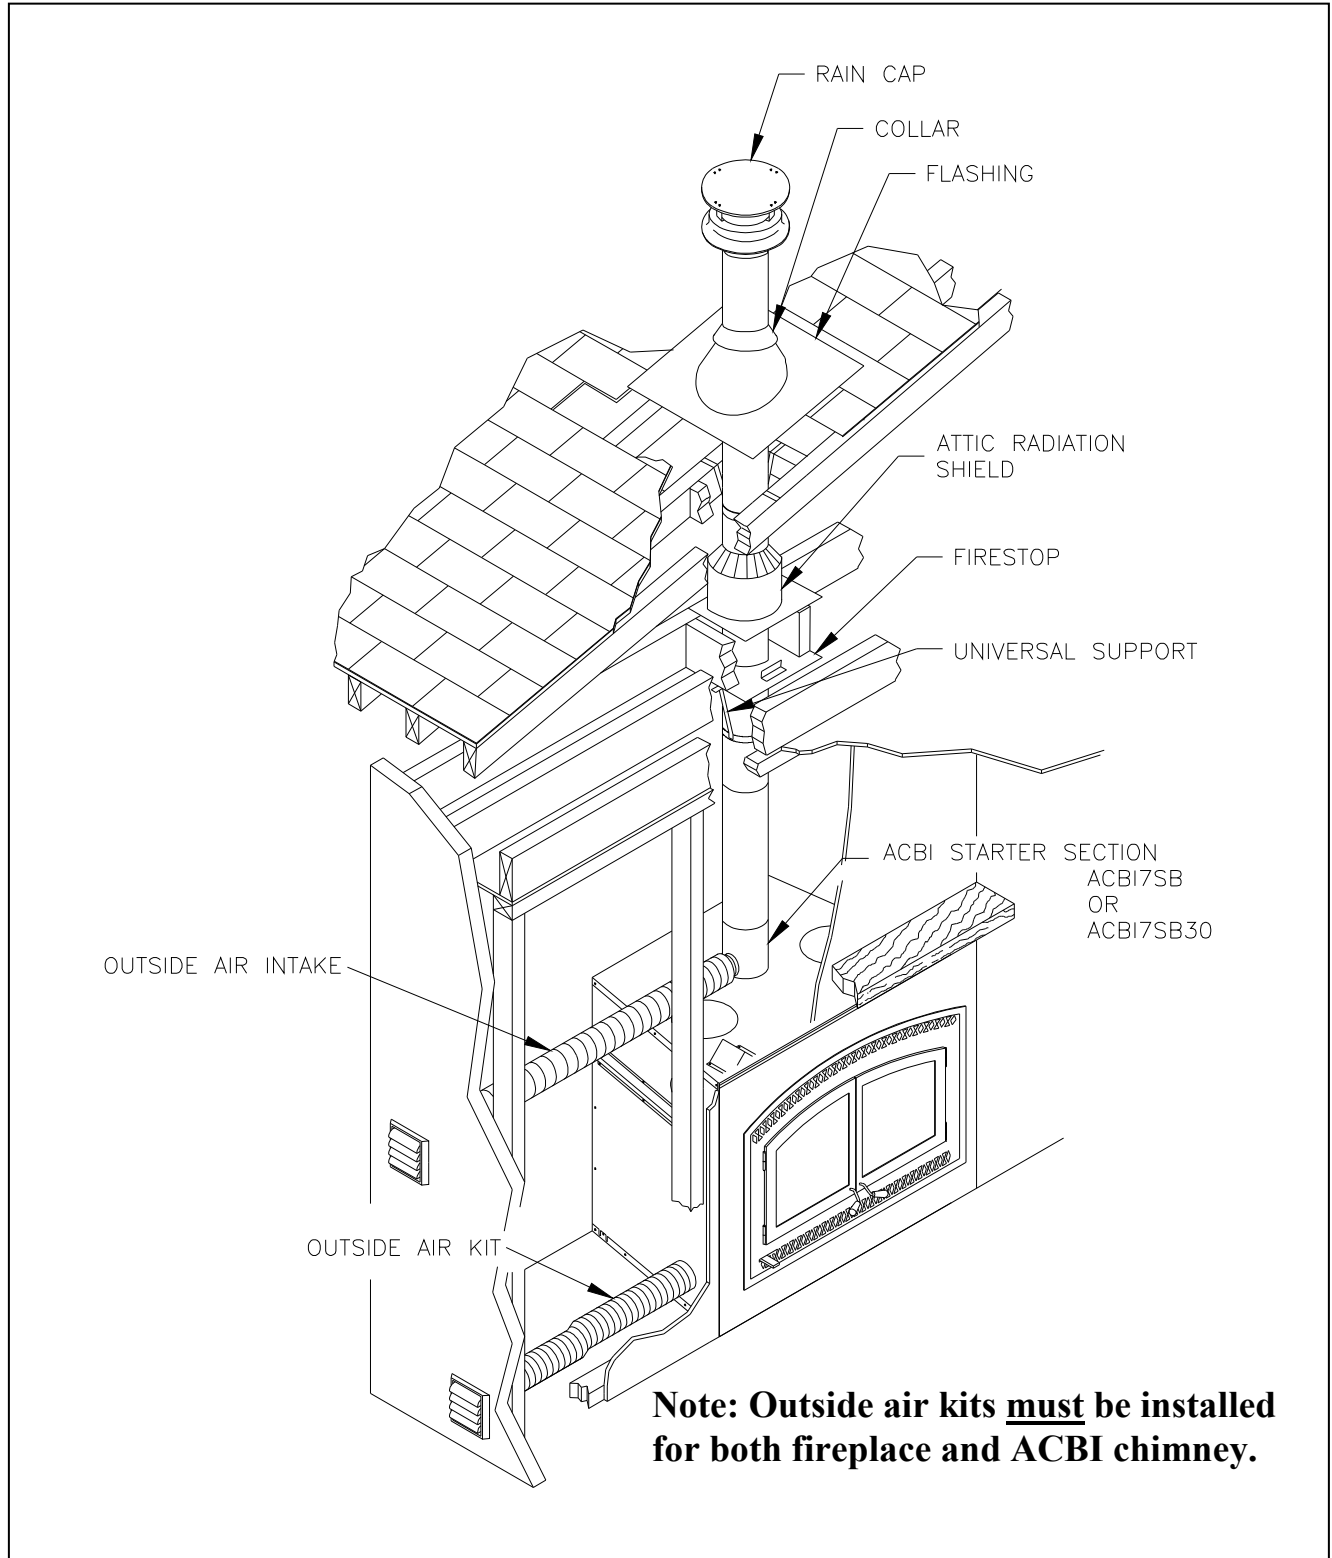

Figure 30
2. For Secure Temp^{S2100+} / Nova Temp^{HT6000+} / Secure Temp^{GX} chimneys, place the first chimney length on the fireplace. To lock it in place, turn ¼ of a turn clockwise. With the ACBI chimney, you must use a starter section before installing the first chimney length (figure 30). Continue installing chimney lengths making sure to lock each length in place.